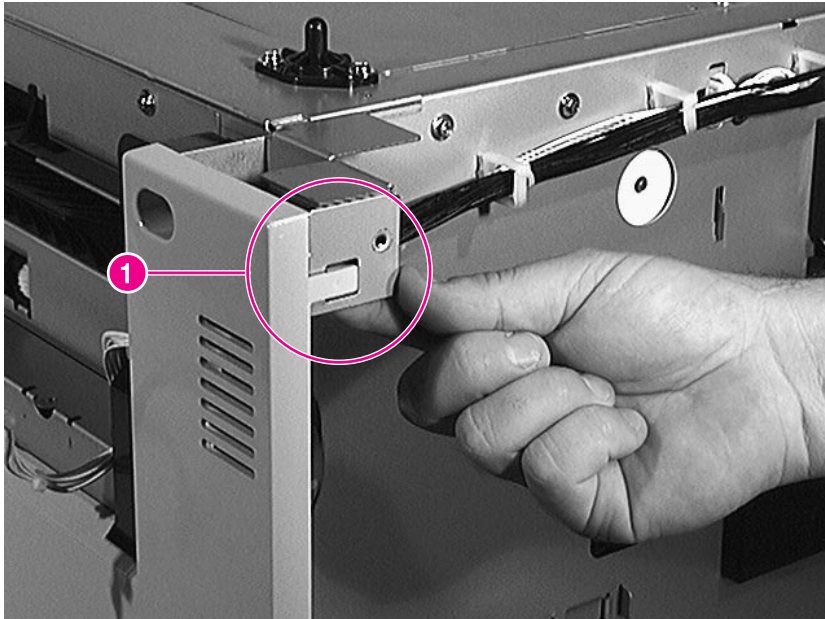

Figure 6-91 Right Cover (3 of 3)
- 4 Release the tab from the right side of the Right Cover as shown in figure 6-91 (callout 1).